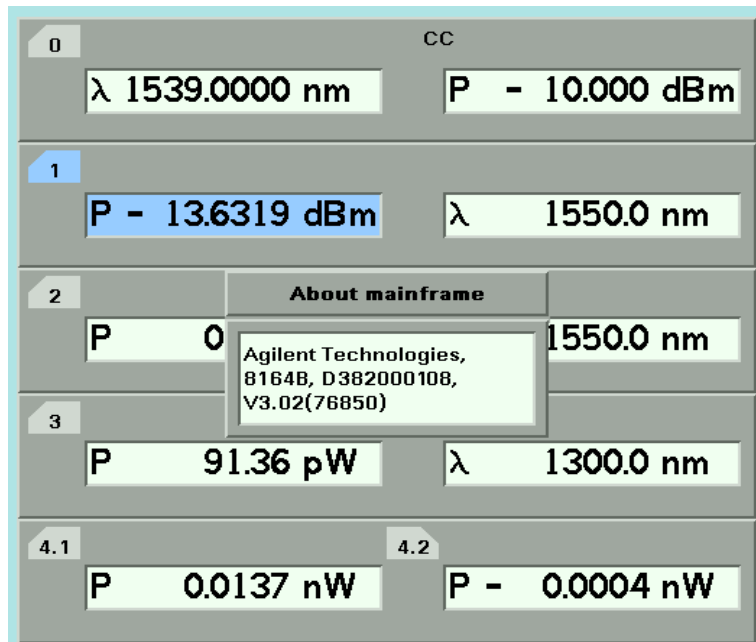

Figure 39 Viewing Information About the Mainframe
- 2 Move to the *<About Mainframe>* menu option and press *Enter*. You see a box displaying information about your mainframe, see Figure 39. The manufacturer, part number, serial number, and firmware revision of the mainframe are listed.